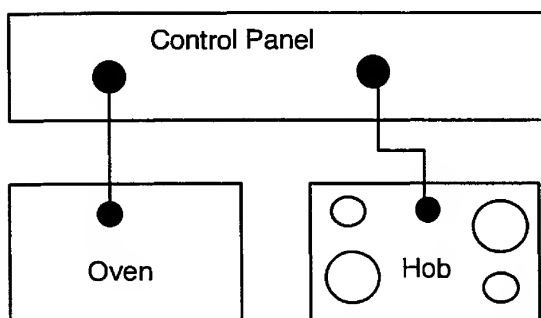

Fig. 1
- by connecting the oven and hob separately to the cooker point. Oven and hob units should be separately connected to a control panel. In this case the cooker should be operated from 6 mm² twin core, and earth, PVC insulated multicore cable. See Fig. 1.